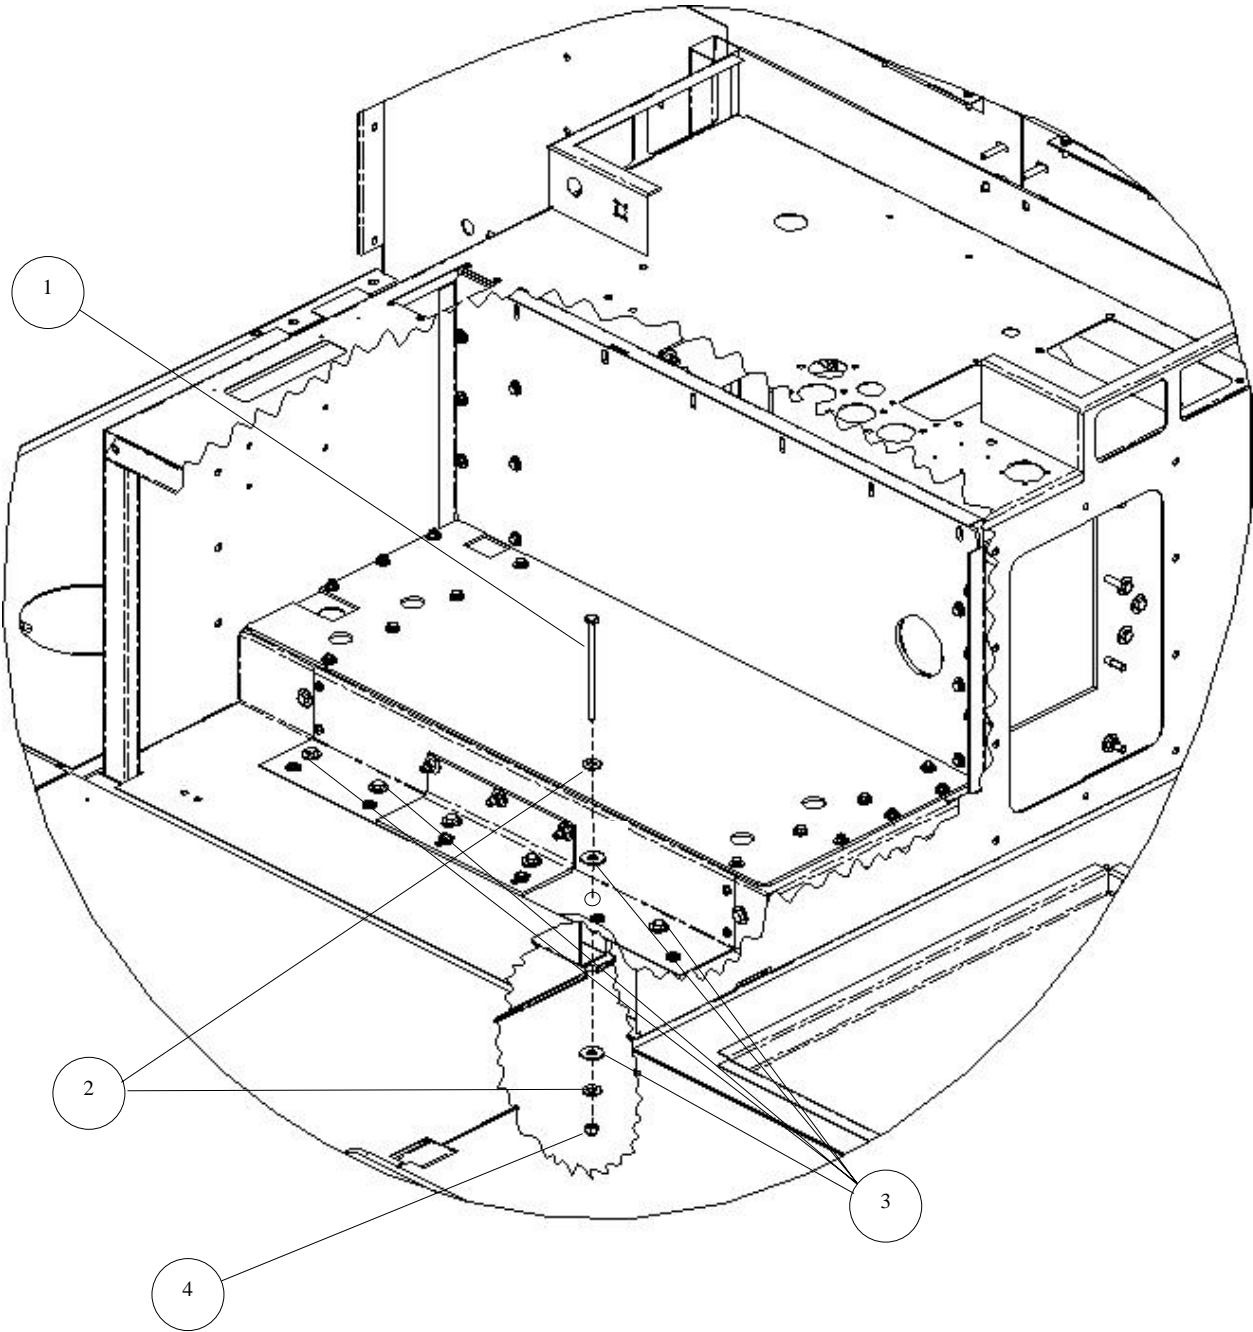

**Figure 3-74. Doghouse Panel Installation.**
6. Install doghouse panel as follows (see Figure 3-74):
- a. Temporarily remove 6 flat washers and locknuts (2) and (3), and install doghouse panel (1) and align the six left and right outer holes to the mounting studs.
- b. Secure the doghouse panel (1) with six flat washers (2) and locknuts (3), removed in Step 1. Torque locknuts to 7 lb-ft.
- c. Install 12 bolts (4), flat washers (5), and lock washers (6). Torque bolts to 5 lb-ft.